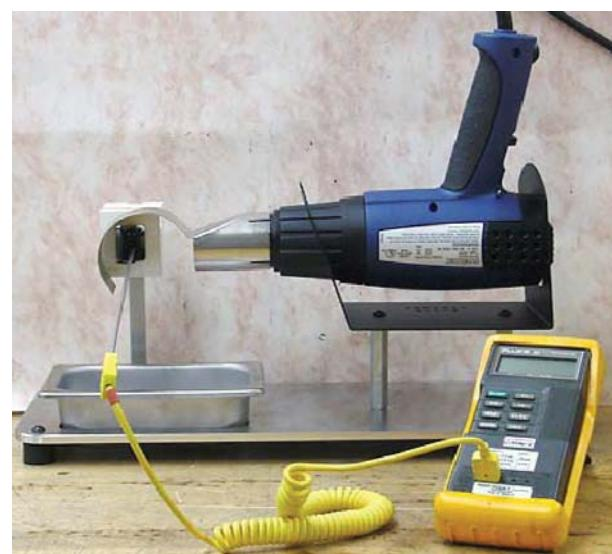

Figure 18
2. Insert the thermocouple into circuit cavity number 8 on the backside of the blank connector housing. Refer to Figure 18.